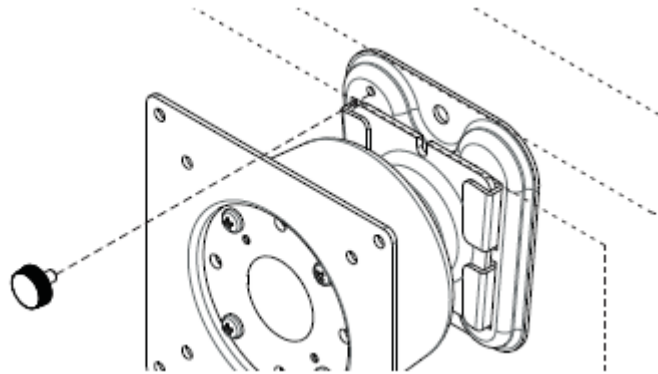

Figure 2.25 Securing the panel PC
- Secure the panel PC in place by tightening screws in the wall mount bracket (Figure 2.25).